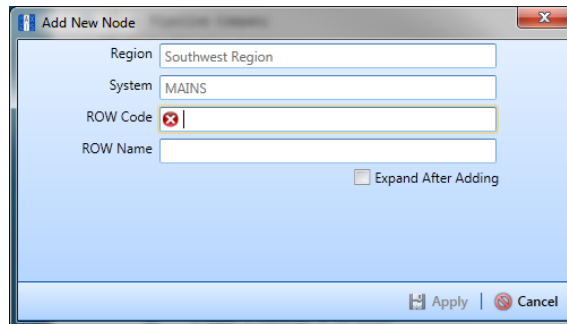

Figure 4-4. Add New Node
- 3 Click  **Add** to open the *Add New Node* dialog box (Figure 4-4). Right-clicking the selected hierarchy folder and selecting *Add* in the shortcut menu also opens the *Add New Node* dialog box.
- 4 Enter a pipeline code for the new pipeline in the **ROW Code** field. Fields requiring information include a  red icon, such as *ROW Code* in the previous figure (Figure 4-4).